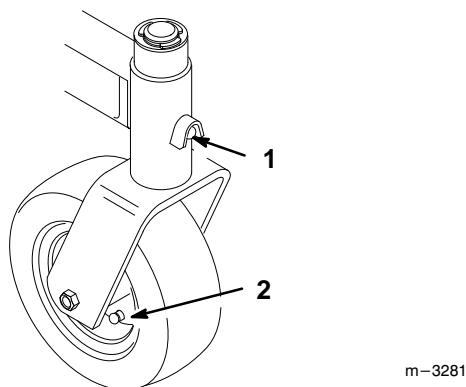

Figure 31
3. Grease the fittings on the carrier frame mounting tubes and castor wheels (Fig. 31).